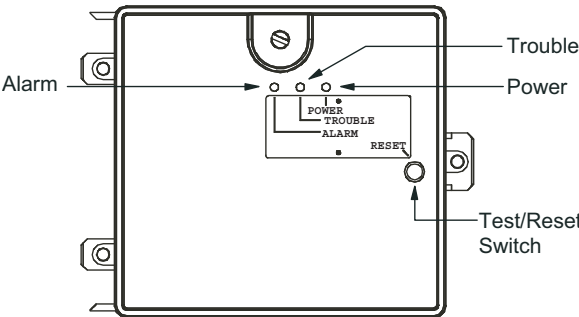

Fig. 44 — Controller Assembly
- The contacts on the controller’s supervisory relay switch positions. (See Fig. 44.)